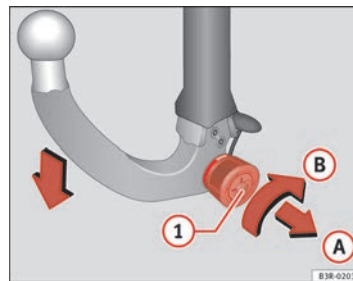

Fig. 159 Removable towing bracket: Removing the ball joint
- Insert the key in the lock **1** ⇒ fig. 159 on the knob.